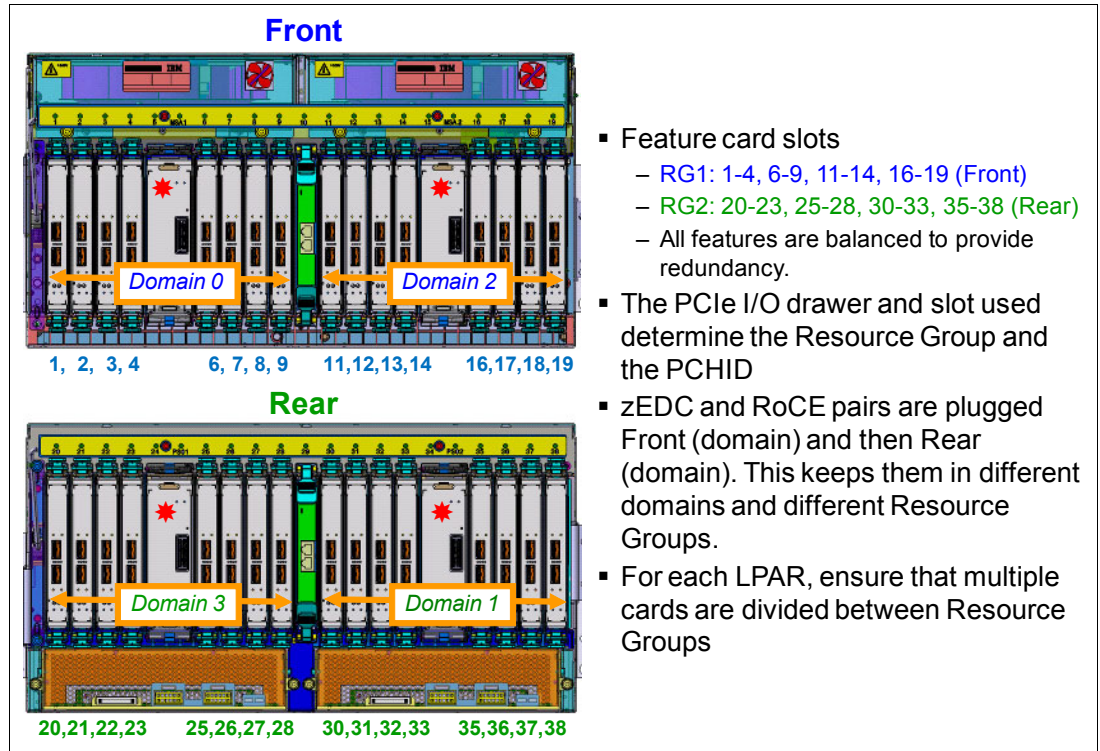

Figure 14-19 Relationship among PCIe I/O drawer slots, domains, and RGs in the z13
The native PCIe feature is provided by Resource Group (RG) code running on the system integrated firmware processor (IFP). For resilience, there are always two independent RGs on the system, sharing the IFP. For high availability purposes, always use two PCIe features located in different RGs (Figure 14-19).